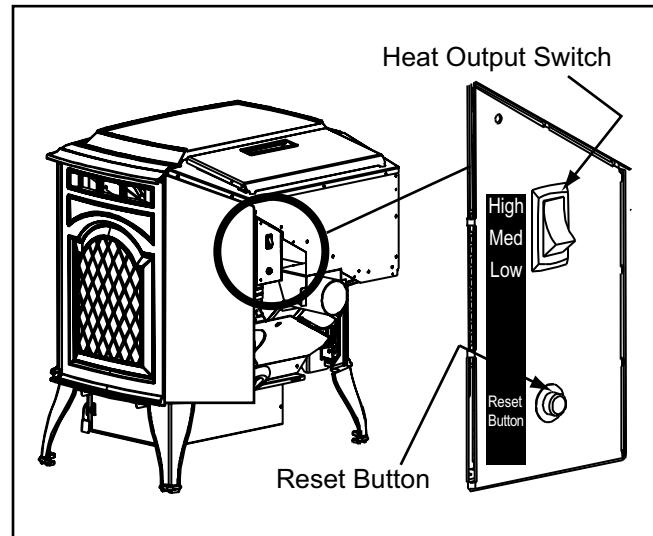
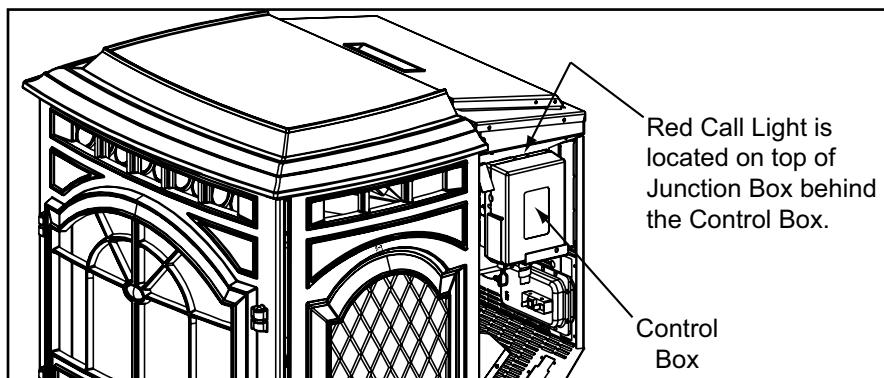

Figure 21.1
Figure 22.1
3. Locate the heat output control switch mounted on the back of the appliance in the upper right corner. **See Figure 21.1 on page 21.** Turn it to the "high" setting by pushing the top of the control switch in and then adjust the thermostat to its highest setting. Open the right side panel and the red call light located behind the control box will be on. **See Figure 22.1.** This indicates the thermostat is calling for heat.
3. Occasionally the appliance may run out of fuel and shut itself down. When this happens, the red call light will be on. (**See Figure 22.1, page 22**). To restart it, fill the hopper and press the reset button. (**See Figure 21.1, page 21**). When you press the reset button the red call light will go out. Release the button and the light will come back on. You should see a fire shortly. If not, follow the instructions on **page 22**, of "Starting Your First Fire".